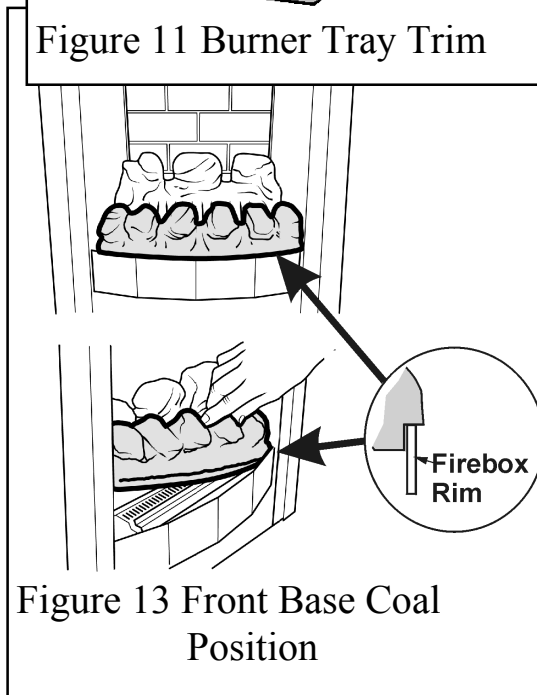

Figure 13 Front Base Coal Position
4. Place the front base coal in the firebox with its bottom front locating over the front rim of the firebox. Pull the coal forward so that it locates immediately behind the front rim of the firebox. See figure 13.